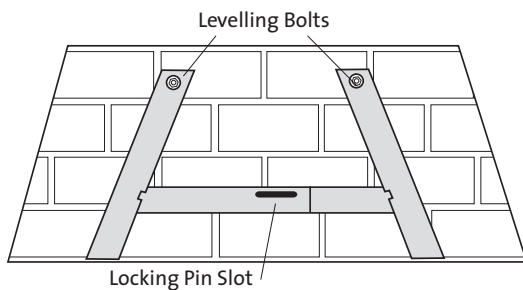

Figure 10. Riser Bar placement.
1. If appropriate to your installation (see pg. 8), position the riser bar centered within the fireplace as shown in fig. 10. The forward ends of the Riser Bar should be aligned within 1/2 inch of the fireplace face.
Pull the Left Blower forward out of the way to access the Locking Pin hole in the firebox floor. See figs. 10 and 11. When the front edge to the firebox is aligned with the front edge of the Riser, the Locking Pin hole will be aligned with the slot in the top of the Riser Bar crossmember. Insert the Locking Pin and pull the firebox out slightly proud of the fireplace face to facilitate attaching the surround panels. Relocate the blower.